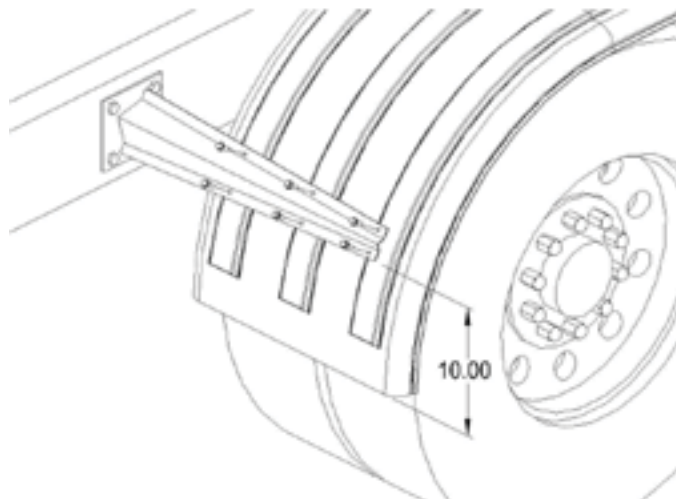

Figure 6
- C. Before welding bracket or bolting mounting plate, make sure the brackets are within 10" of the bottom of the fender to avoid wind blowing the fender back into the tire. If the front fender bracket is mounted higher than 10", run a piece of steel strapping on the inside of the fender to give it extra strength (see Figure 6). When brackets are in position, weld bracket or bolt mounting plate to frame.